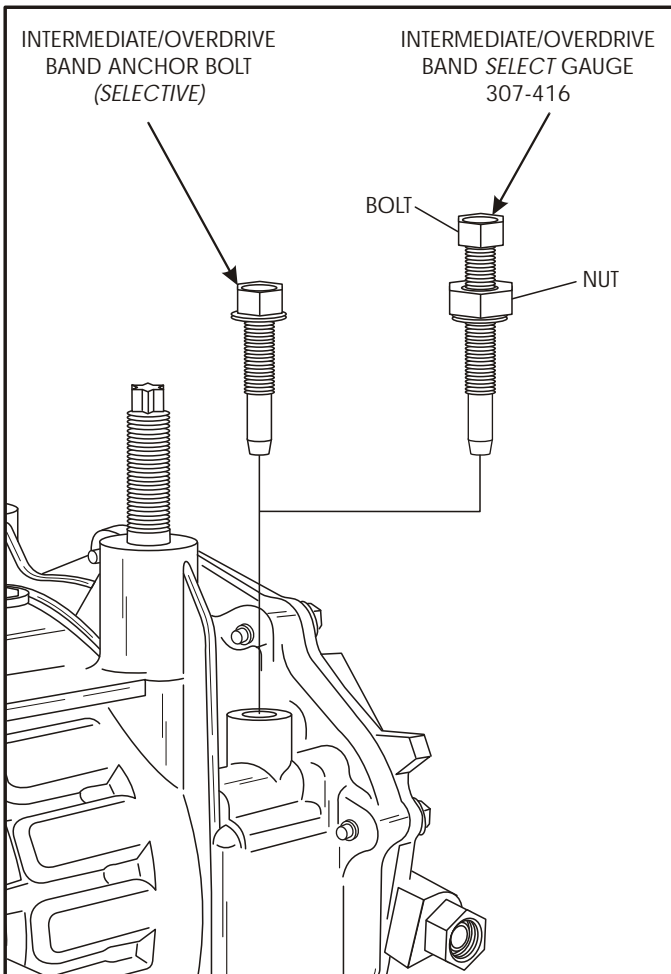

Figure 181
57. Remove the selective 2-4 band anchor bolt, as shown in Figure 181, and install the 307-416 Band Select Gauge.